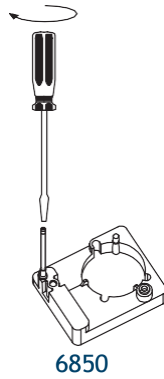

Figure 18. Installing the mounting post (6850 GCs)
- 6850 Series GC. Install into the inlet mounting bracket. Loosen the inlet screws, install the post and tighten the screws. The post must be turned all the way down (Figure 18).